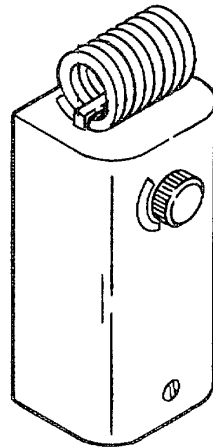

Figure 1-3. Room Thermostat.
i. Carburetor (9). The carburetor meters the flow of fuel to the burner head to achieve efficient combustion. A fuel adjustment needle enables manual adjustment of flow rate. Solenoid valves control the fuel flow from the float bowl to the fuel nozzle. Fuel lines carry fuel from the strainer to the fuel pump and from the fuel pump to the carburetor.
j. Electronic Control Unit (ECU) (10). The electronic control unit controls automatic heater operation. After ignition, the control unit will start and stop the heater as the thermostat reaches the desired setting. The unit controls the glow plug, igniter, and fuel heater. Starting and stopping is controlled by relay switching and time delays. The ECU will purge the system after shutdown.
k. Heat Exchanger (11). The heat exchanger is open to the burner head at one end and contains an exhaust outlet at the other end. The burning air and fuel mixture heats the heat exchanger walls. A ventilation air blower blows air around the outside of the heat exchanger and picks up heat before it passes through the warm air louver to the enclosure to be heated.
l. Motor/Blower Assembly (12). The blower motor assembly consists of a 28 VDC motor and two blower assemblies. One blower is mounted on the motor at the rear of the heater and provides air through an air hose to the burner head. The other blower is mounted to the heat exchanger and provides air around the outside of the heat exchanger. The heated air passes through the louver to the enclosure to be heated..
m. Heater Case (13). The heater case is constructed of sheet metal and has top and side cover panels that are interchangeable. Quick release 1/4-turn fasteners provide easy removal. Four captive nuts are used to mount the heater. An air intake screen is used to prevent foreign matter from entering the heater. A louver is mounted on the front of the heater case. It is adjustable to direct the discharge of air. The power receptacles are mounted on the control panel not less than 3 inches apart. All heater components are mounted inside the heater case.
n. Cover Assembly (14). The cover assembly is supplied with, but is not part of, the heater. It can be used in place of the top cover to attach ducting to provide outside air to heater.
o. Room Thermostat (Figure 1-3). The room thermostat is remotely mounted away from the heater and not in direct line with the warm air output. The thermostat will withstand 15 to 20 cycles per hour within the range of +55°F (12.8°C) or less to 85°F (29.4°C) or more. The thermostat is encased in metal and all nonmetal parts are protected against breakage.